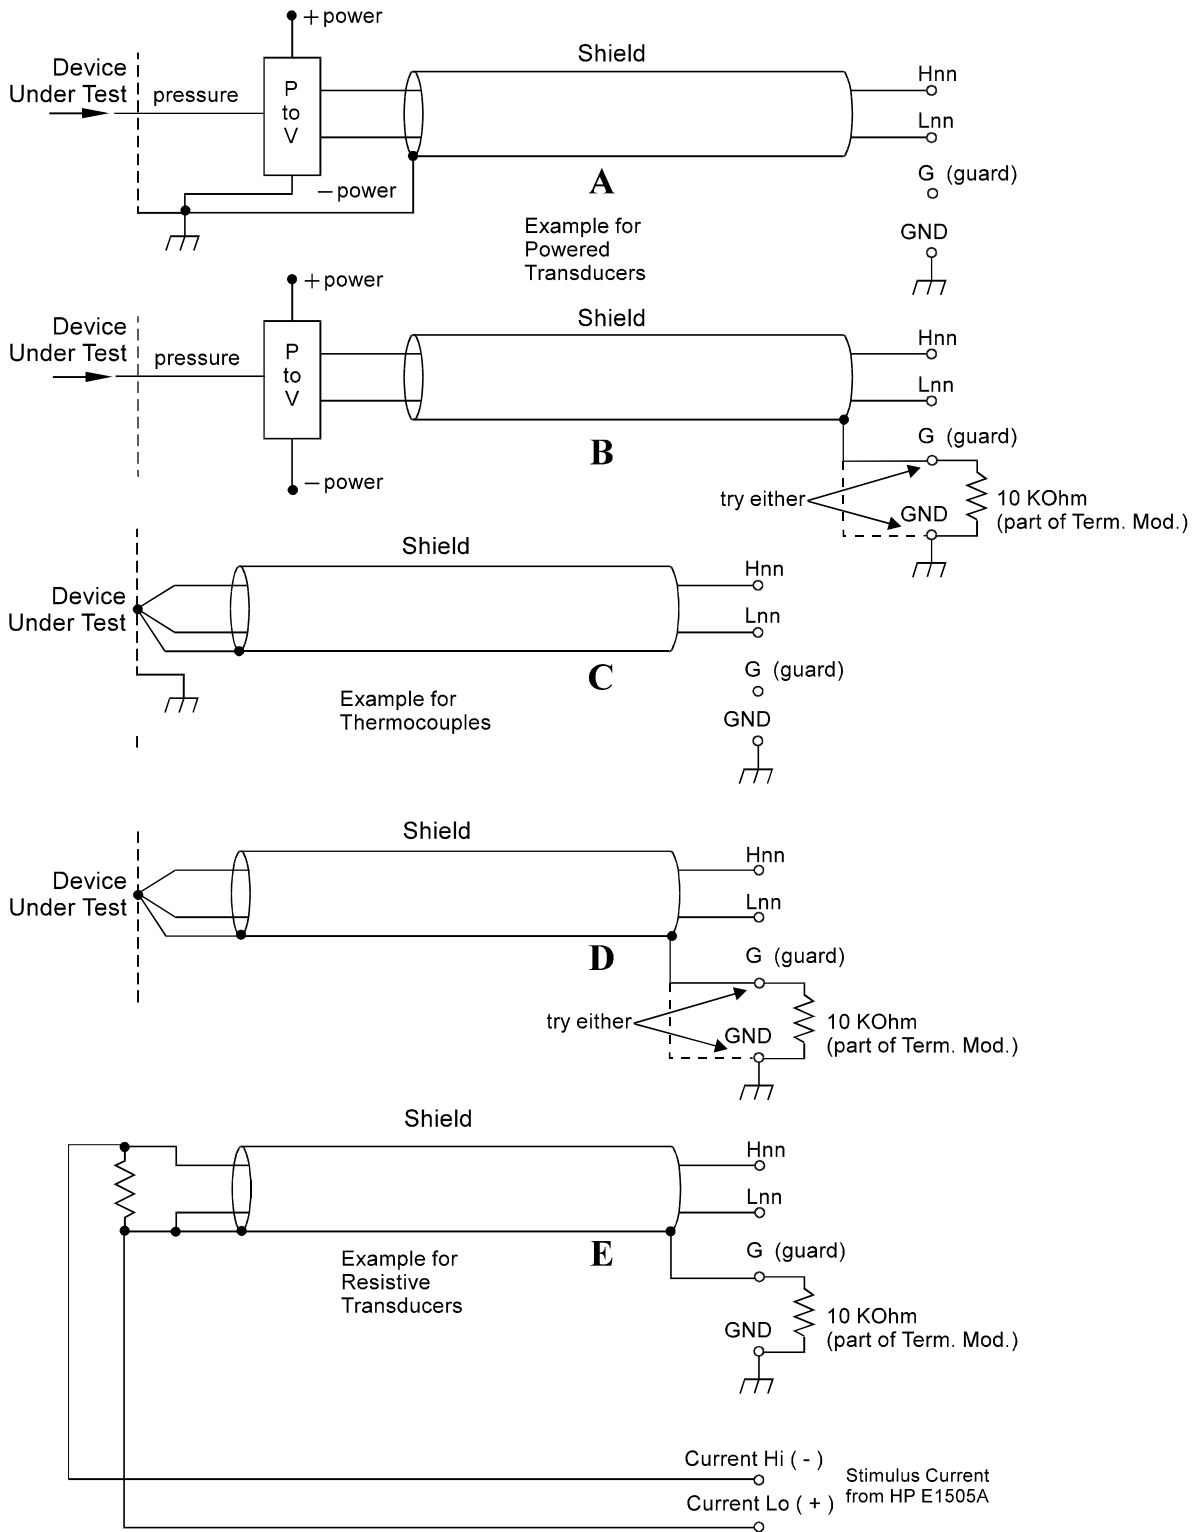

Figure 2-9 Preferred Signal Connections
For any A/D Module to scan channels at high speeds, it must use a very short sample period ($<10\mu\text{second}$ for the HP E1419). If significant normal mode noise is presented to its inputs, that noise will be part of the measurement. To make quiet, accurate measurements in electrically noisy environments, use properly connected shielded wiring between the A/D and the device under test. Figure 2-9 shows recommended connections for powered transducers, thermocouples, and resistance transducers. (See Appendix D for more information on Wiring Techniques).
- a. Grounded Transducer with shield connected to ground at the transducer: Low frequency ground loops (DC and/or 50/60Hz) can result if the shield is also grounded at the Terminal Module end. To prevent this, remove the GND-GRD jumper for that channel (Figure 2-9 A/C).
- b. Floating Transducer with shield connected to the transducer at the source: In this case, the best performance will most likely be achieved by leaving the GND-GRD jumper in place (Figure 2-9 B/D).